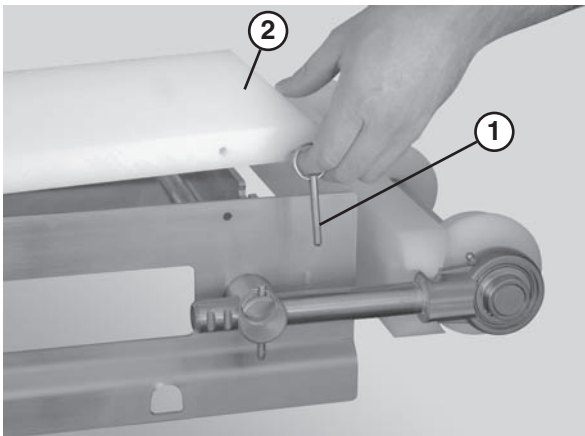

Figure 51
1. Remove the pull pins (Figure 51, item 1) that connect the guide (Figure 51, item 2) to the frame.